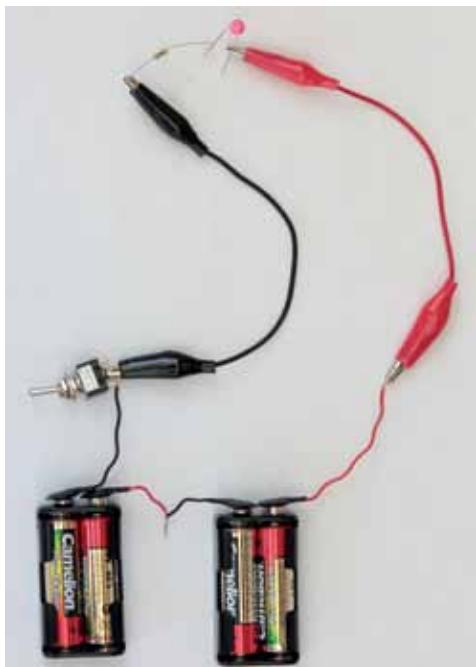

Figure 3: A circuit with an LED, a battery, a switch and a resistor
1. Draw a circuit diagram for Figure 3 in the space on the right.